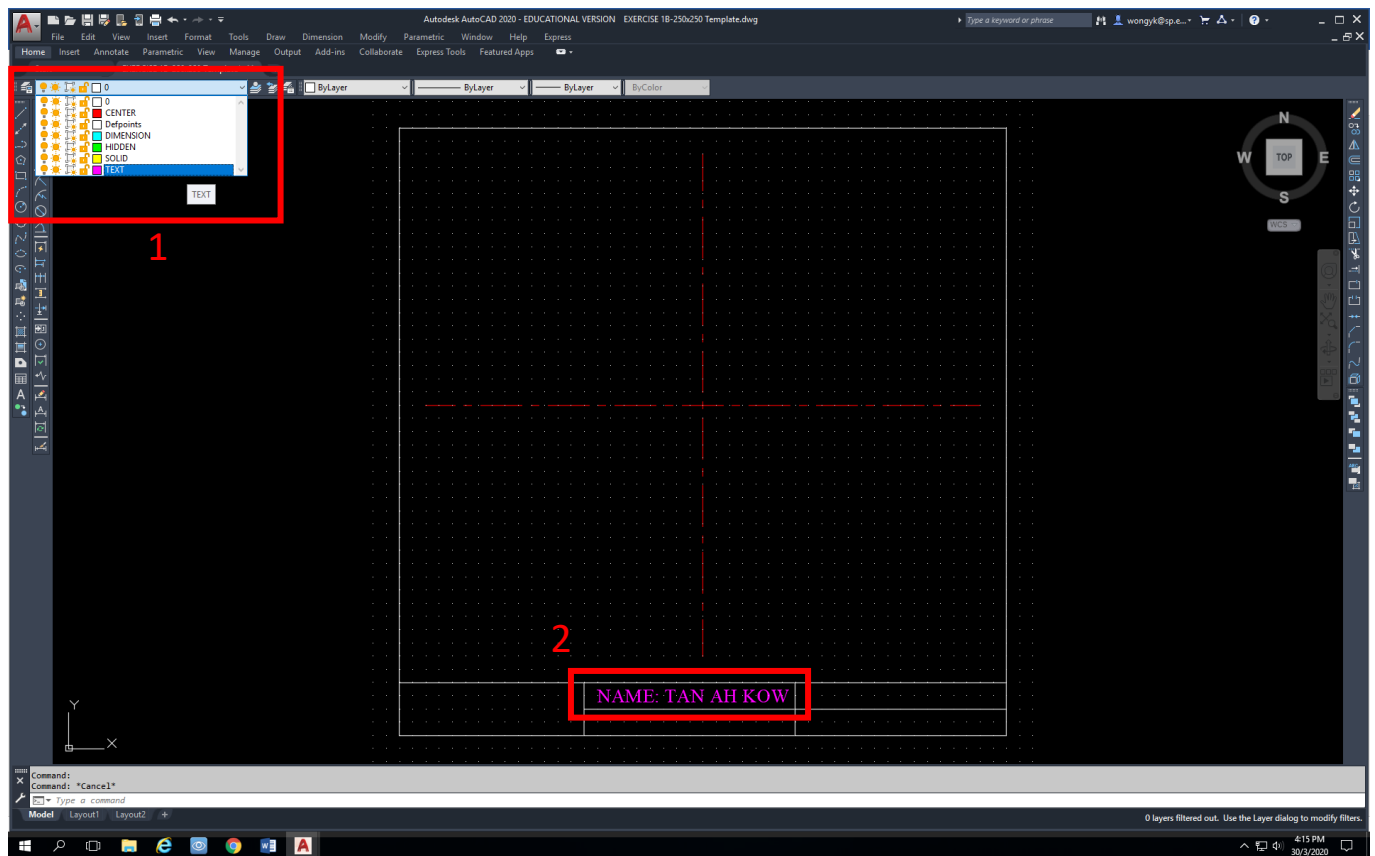

Fig 12
- x. Next, **Click on the Text** (Turn Light blue) and then **click on the arrow-down of Layers (1)**.
- xi. Then **click on the Text Layer (1)** and press **esc**.
- xii. See Fig 12 where Text is deposited into Layer TEXT and colored **Magenta (2)**.